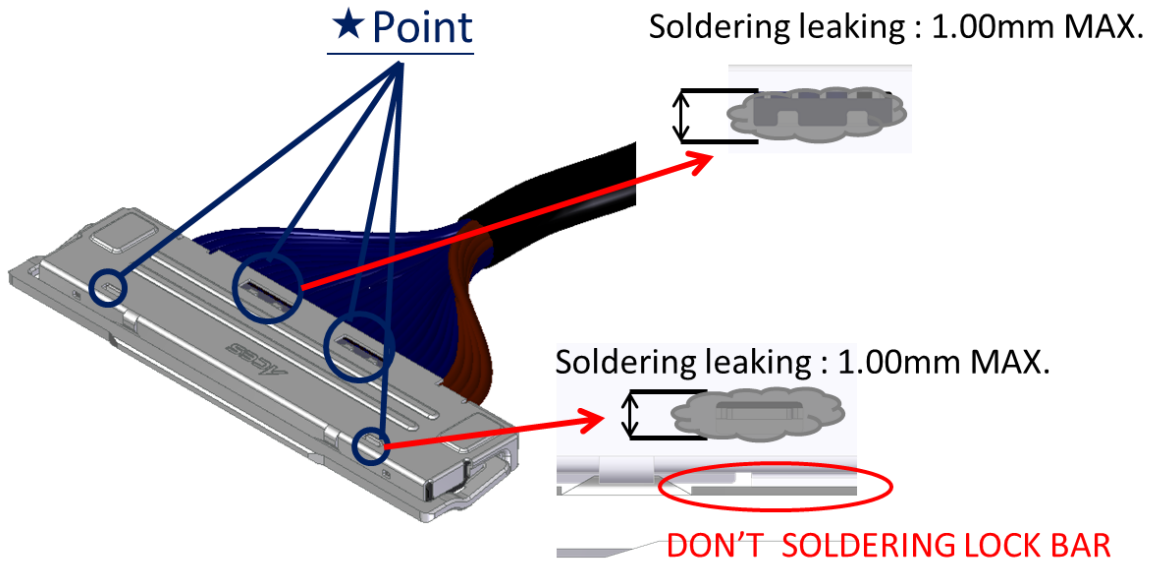

Fig.9 Soldering of SHELL-A and GND BAR
③ Plug-Shell and GND BAR are soldered with the soldering iron at designated point. (Fig.9 ,10◆ point)